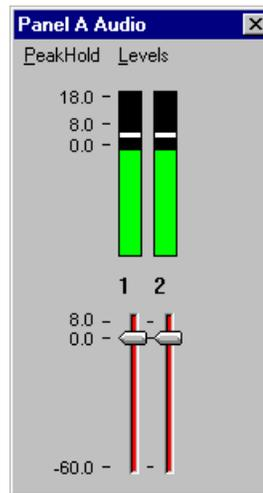

Figure 71. Audio Monitor dialog box
1. Choose **Window | Audio Monitor**. The Audio dialog box appears, as shown in Figure 71. There are only two channels in this example, but up to sixteen are possible.